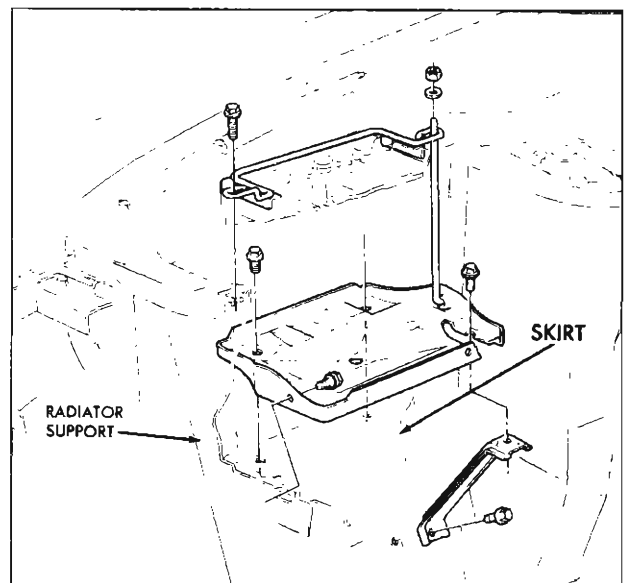

Fig. 30—Battery Tray
**BATTERY TRAY (FIG. 30)****Removal**